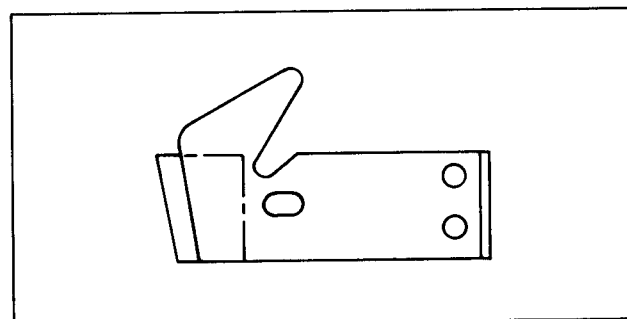

**Fig. 56** *Tilt Arc Chute*
**TILT ARC CHUTE (FIG. 56)**
#### **TILT ARC CHUTE (FIG. 56)**
Lift arc chute up and position end of prop in hole in casting at base of chute support post. See Fig. 56.